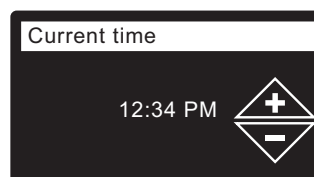

FIG. 22
19. **CURRENT TIME** Press the DOWN (▼) or UP (▲) buttons to set the current time (See Figure 22). Hold the button down to rapidly advance. Be sure that AM or PM is correct. If the system units were set to metric in Step 17, the clock will be in 24-hour format.